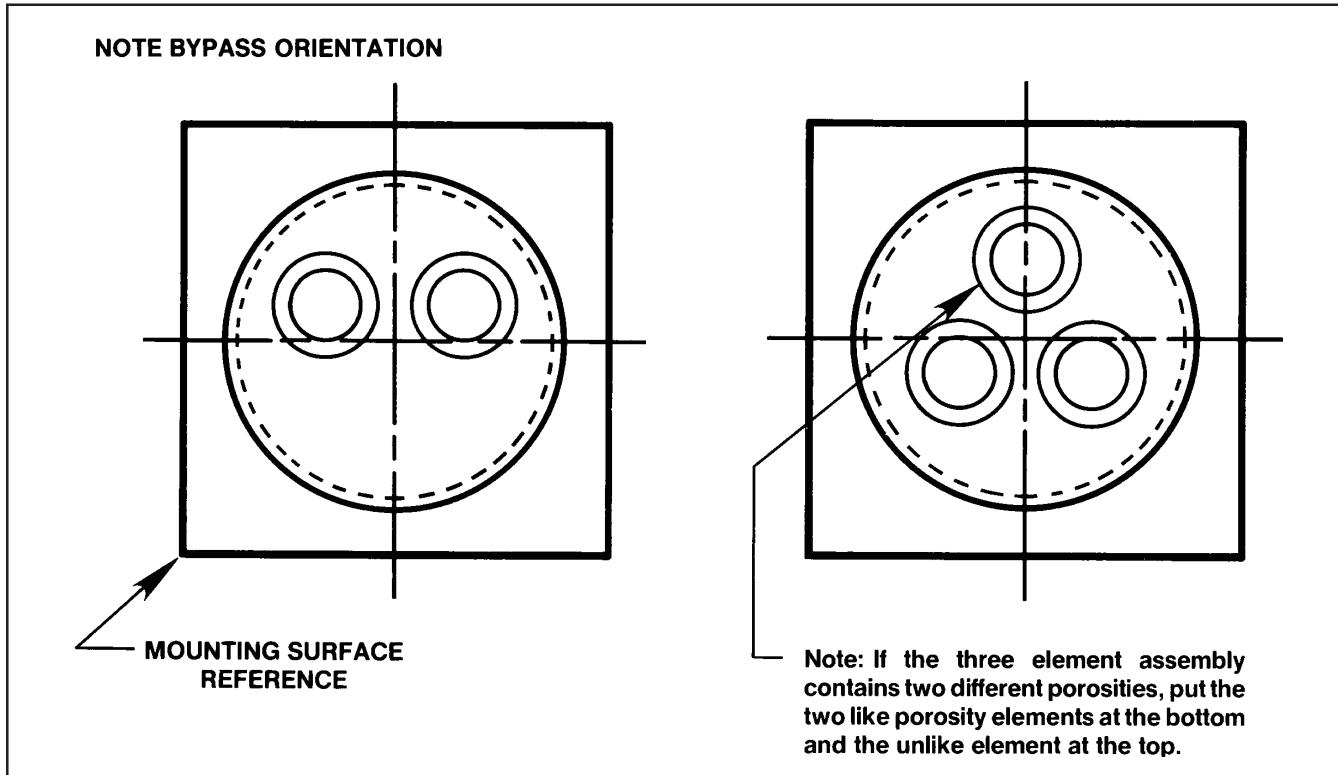

Figure 4-6 Restrictor Element Orientation in Controller Body
3. Put a lightly O-ring onto the header plate. The restrictor assembly can then be installed in the MFC body (restrictor element(s) go in first). It is important that the restrictor assembly is put into the body in the correct orientation (Refer to Figure 4-6). Push this assembly in with your fingers. Do not use an arbor press or hammer to install the restrictor assembly. The restrictor assembly should be pushed in until it bottoms out. Do not force it beyond this point.